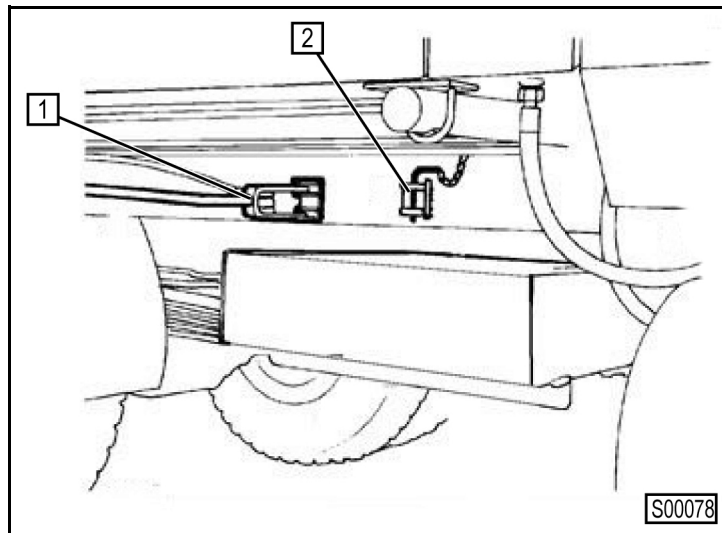

Fig. 135 Axle safety catch
Caption (Fig. 135)
- Swing the levers (1) (**Fig. 135**) forward on each side of the vehicle and secure with the safety bolt (2) (**Fig. 135**).